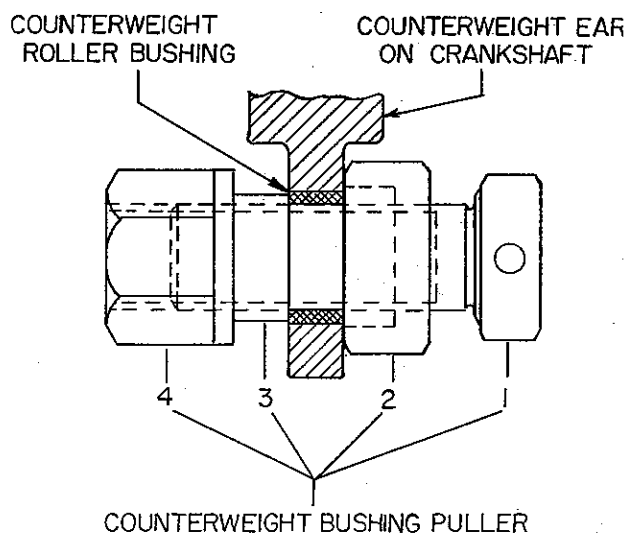

Figure 7-14. Removal of Crankshaft Counterweight Bushing
1. Thread the bolt of the counterweight bushing puller through the puller plate, positioning the plate so that the recess in it will be next to the crankshaft when the puller bolt is inserted through the bushing in the crankshaft. Install the small puller bushing over the end of the bolt and then place the puller nut over the end of the bolt and tighten. As the nut is tightened on the bolt the counterweight bushing will be pushed out of its recess in the crankshaft counterweight mounting ear and into the recess in the puller plate. See figure 7-14.